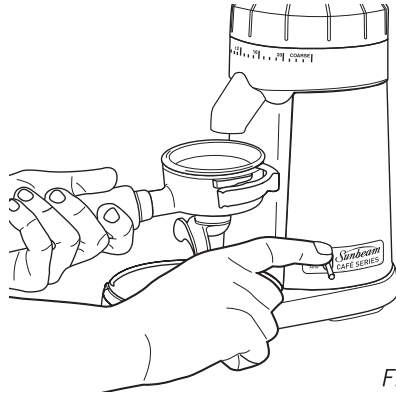

Figure 6
- Flip the switch to the 'Auto' position, see Figure 6.